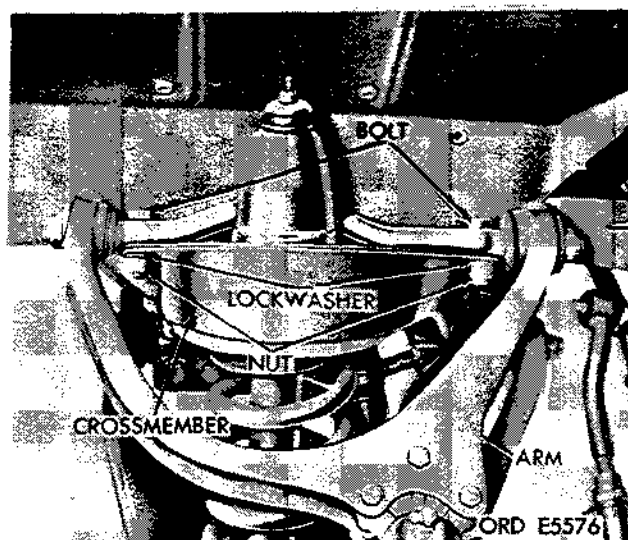

Figure 2-331. Disconnect upper suspension arm from front crossmember.
(3) Remove two bolts, nuts, and lockwashers securing upper suspension arm to front crossmember (fig. 2-331).